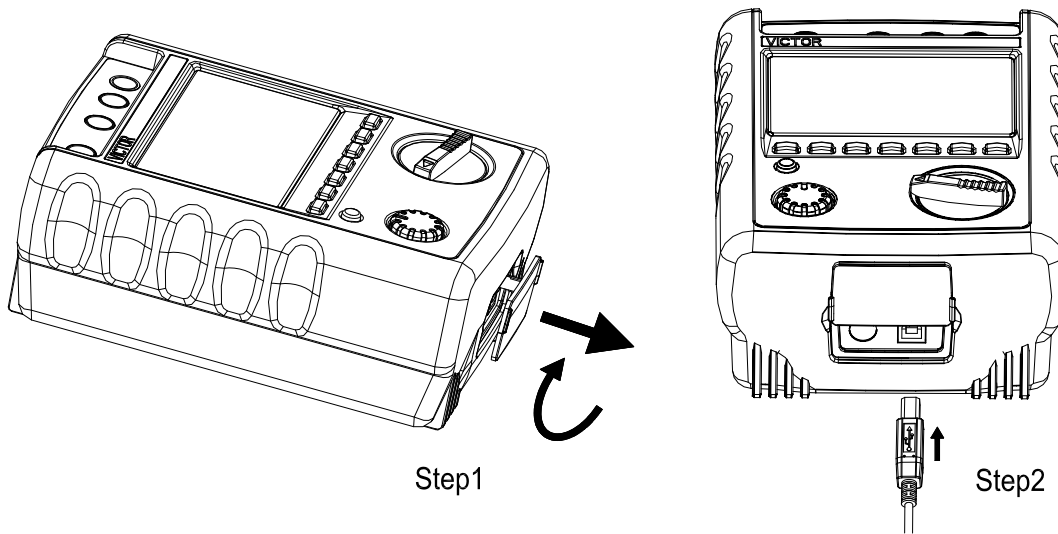

Figure 8
Step 1: Push aside the movable valve on the side of the instrument, and plug one end of the USB to into the USB jack of the instrument, and connect the other end to into the USB port of the computer (see Figure 8).